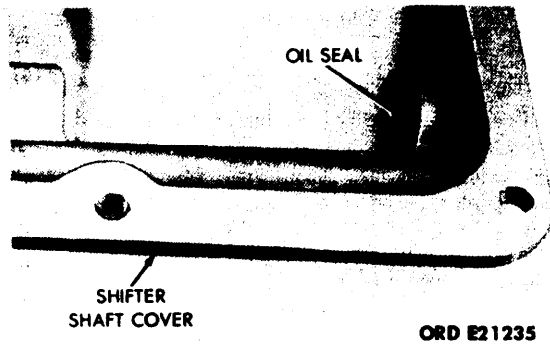

Figure 3-45. Removal of First and Reverse Shifter Shaft Oil Seal.
(5) Drive first and reverse shifter shaft oil seal (fig. 3-45) out with punch and hammer, and discard seal.
(1) Using a new oil seal, install the first and reverse shifter shaft oil seal. (See fig. 3-45.)